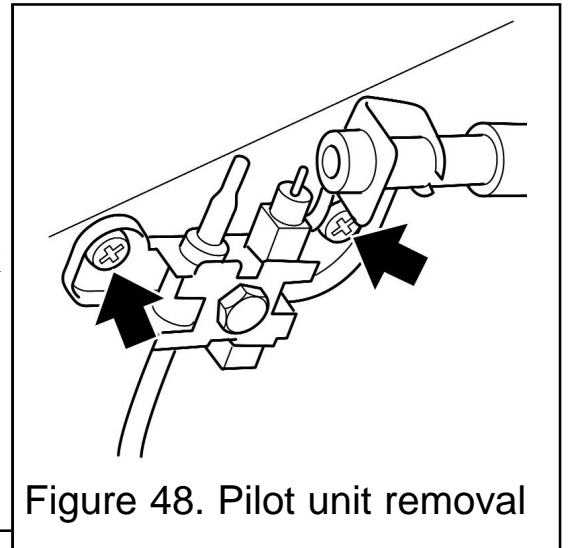

Figure 48. Pilot unit removal
6. Remove the two screws securing the pilot unit. See figure 48.